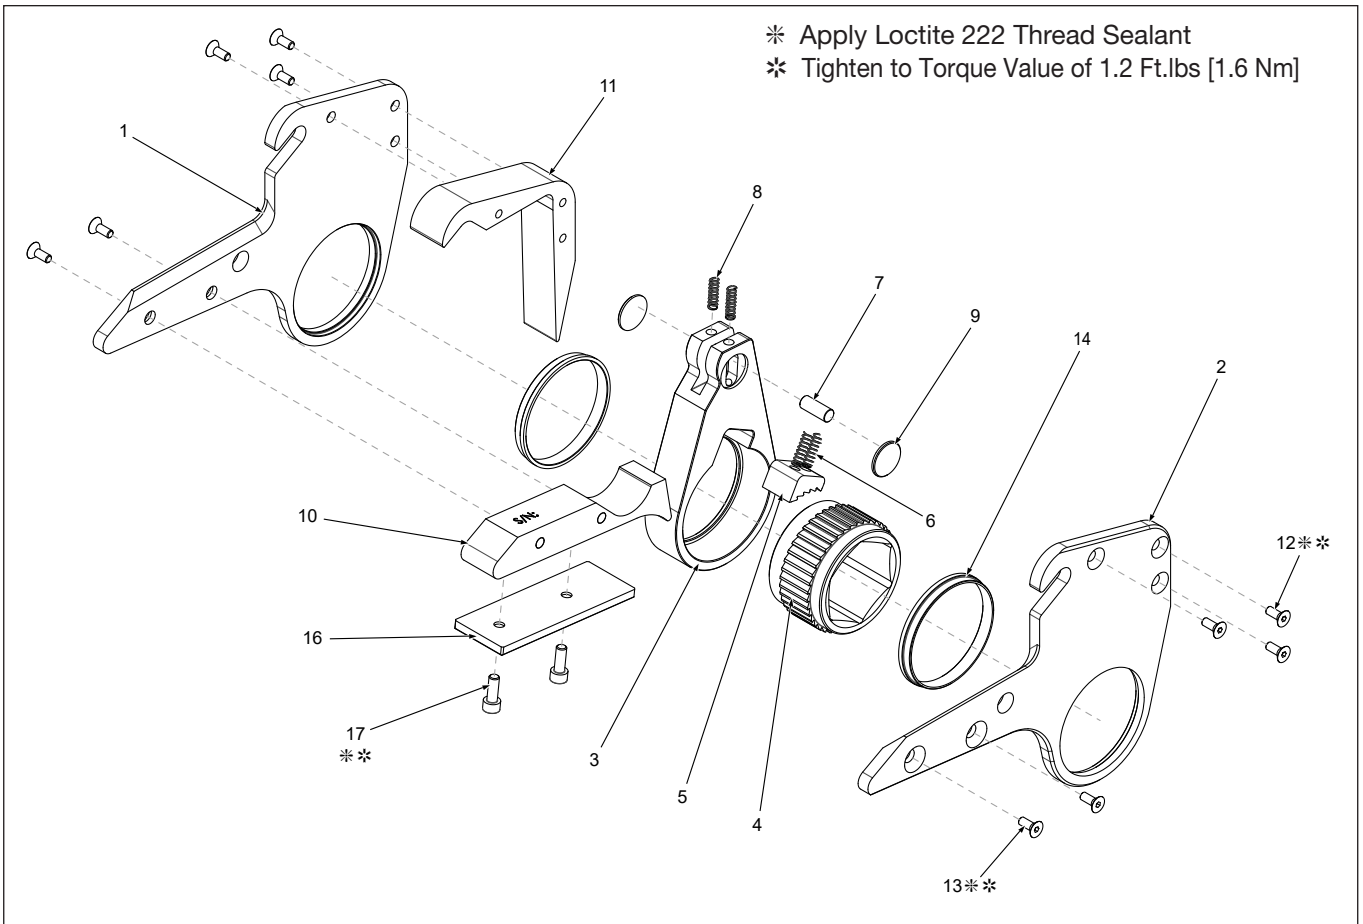

Figure 20: Exploded HMT HLP Cassette
### 7.3.3 HMT HLP Cassette Assembly - Disassembly and Reassembly (Fig. 20/ 21)
- With the HLP cassette laid down on its side, remove the three front spacer screws (12) and two reaction block screws (13) followed by the one of HLP cassette side plate (1 or 2).
- Separate the ratchet bush (14). The drive plate assembly is free to be removed from the cassette. Carefully remove the two compression springs (8) from the drive plate and set to one side.
- Remove the ratchet (4), pawl (5) and pawl springs (6).
- Disengage the two drive pin retainers (9), and slide out the drive pin (7) from the drive plate (3).
- On the remaining plate remove the three front spacer screws (12) and two reaction block screws (13) separate front spacer (11) and reaction block (10) from the remaining HLP cassette side plate (1 or 2).
- Disassemble the reaction block by removing the two socket head cap screws (17), and remove the wear plate (16) from reaction block spacer (10).
- Dry all components. Apply a thin coat of molybdenum disulphide grease in the areas shown in Figure 20.